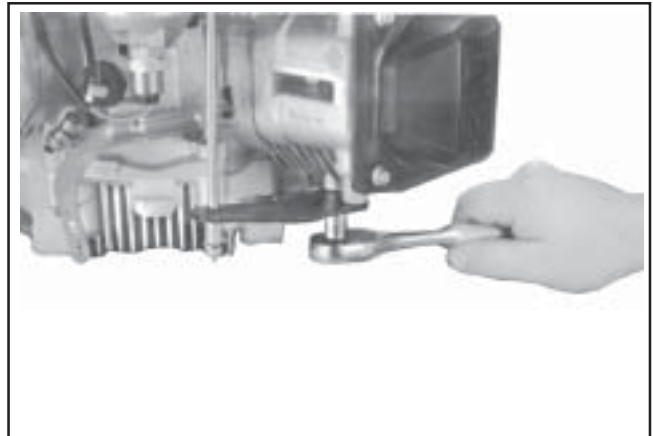

Figure 11-74. Installing Lower Support Control Bracket.
6. Install the lower support control bracket if equipped with a control panel. See Figure 11-74.